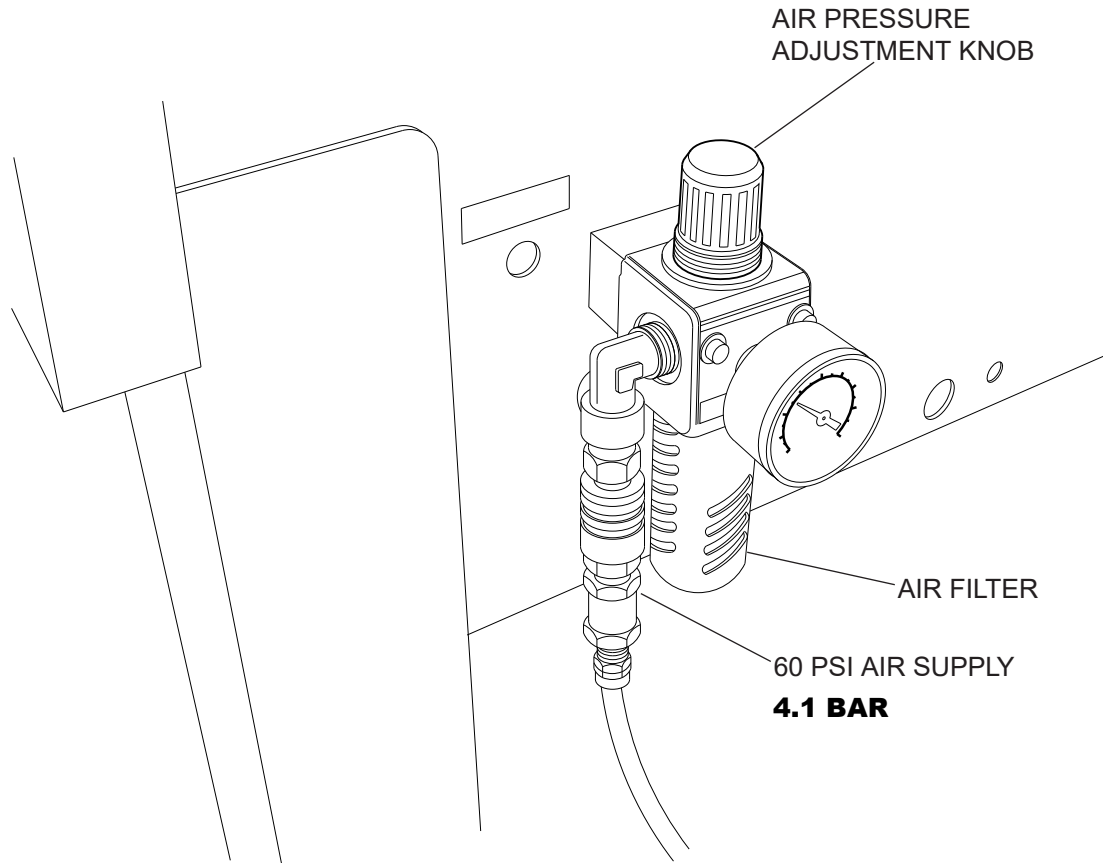

Figure 9 Pneumatic connection
This machine is pneumatically powered. An air supply must be connected to the Air Intake Filter/Regulator as shown in figure 9. Air must be clean and lubricated.
- Clean or change the air filter (figure 9) when necessary. Refer to the Spare Parts section of this manual for air filter part number.